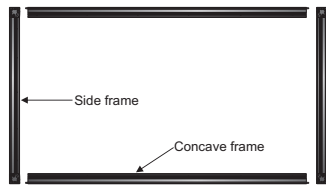

Figure 1
1. Lay the two side bars and two concave bars on a horizontal ground, building the shape of a rectangle. (Figure 1)